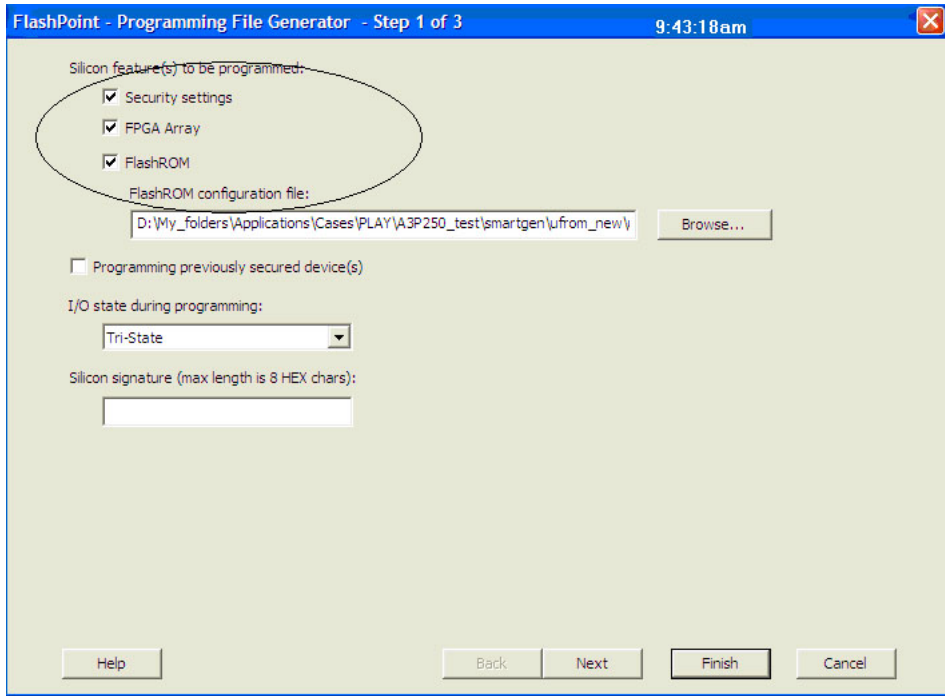
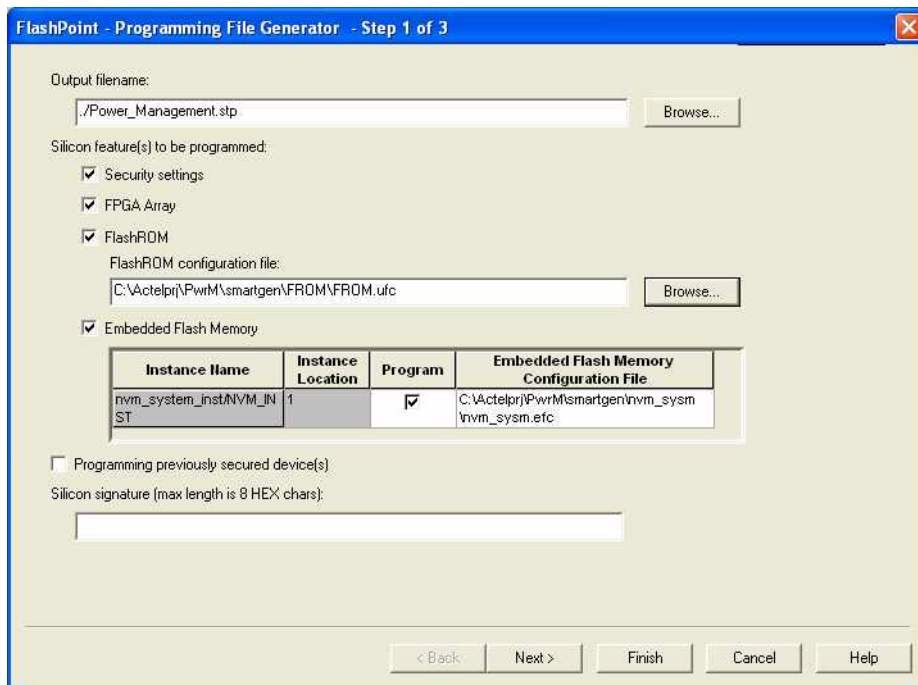
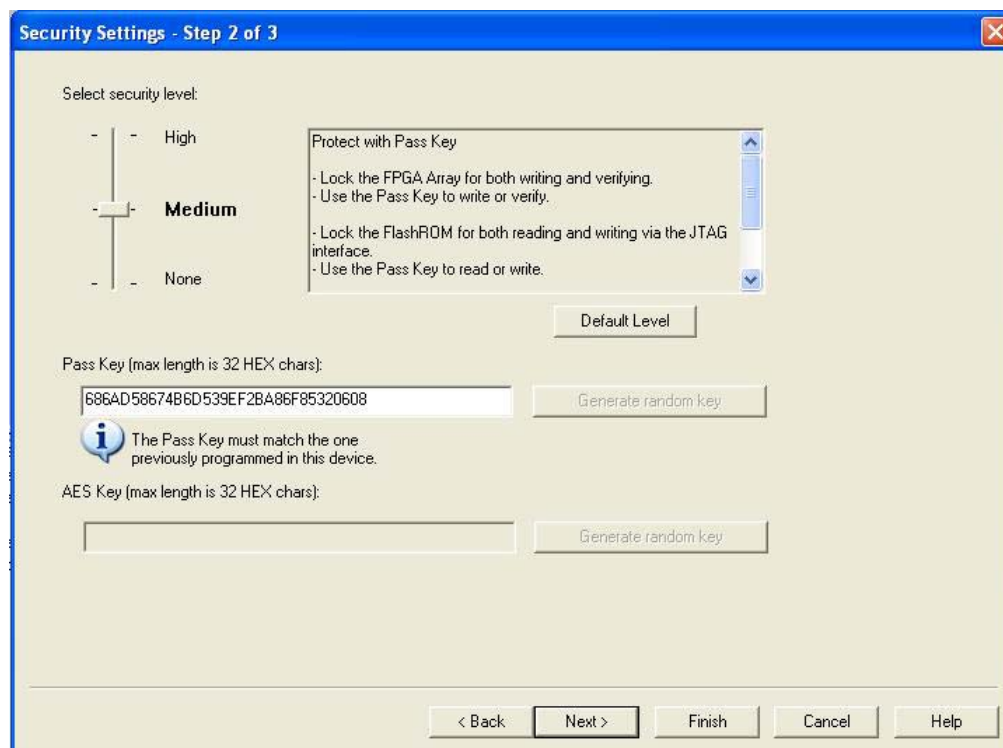

Figure 10-10 • All Silicon Features Selected for IGLOO and ProASIC3 Devices
Figure 10-11 • All Silicon Features Selected for Fusion
Figure 10-19 • FlashLock Pass Key, Previously Programmed Devices
1. Select the **Silicon features to be programmed** (Security Settings, FPGA Array, FlashROM, Flash Memory Blocks), as shown in Figure 10-10 on page 242 and Figure 10-11 on page 242. Click **Next**.
Figure 10-10 on page 242 and Figure 10-11 on page 242 show the option **Programming previously secured device(s)**, which the user should select before proceeding. Upon going to the next step, the user will be notified that the same FlashLock Pass Key needs to be entered, as shown in Figure 10-19 on page 250.
It is important to note that when the security settings need to be updated, the user also needs to select the **Security settings** check box in Step 1, as shown in Figure 10-10 on page 242 and Figure 10-11 on page 242, to modify the security settings. The user must consider the following: